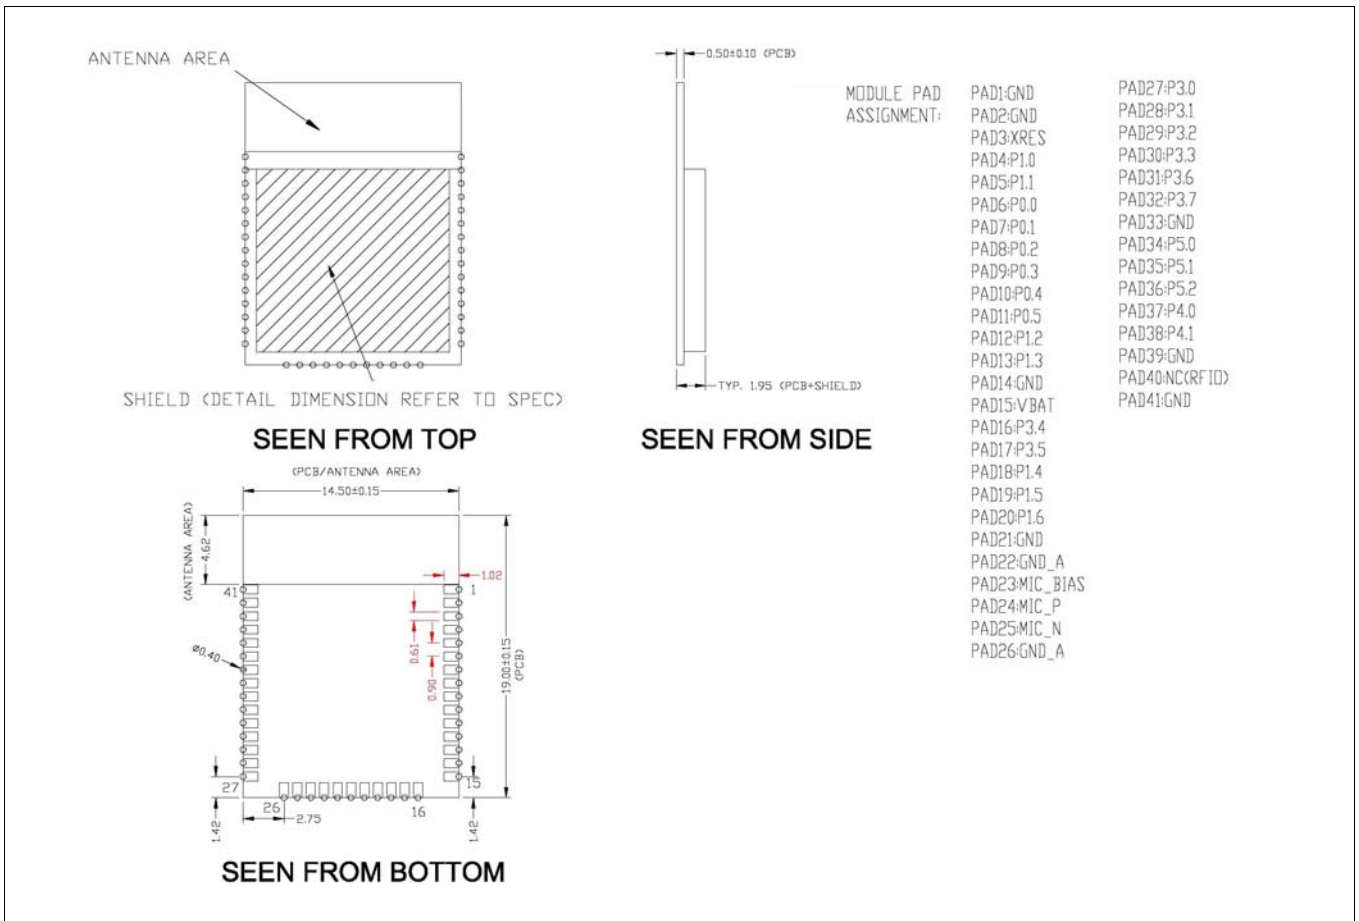
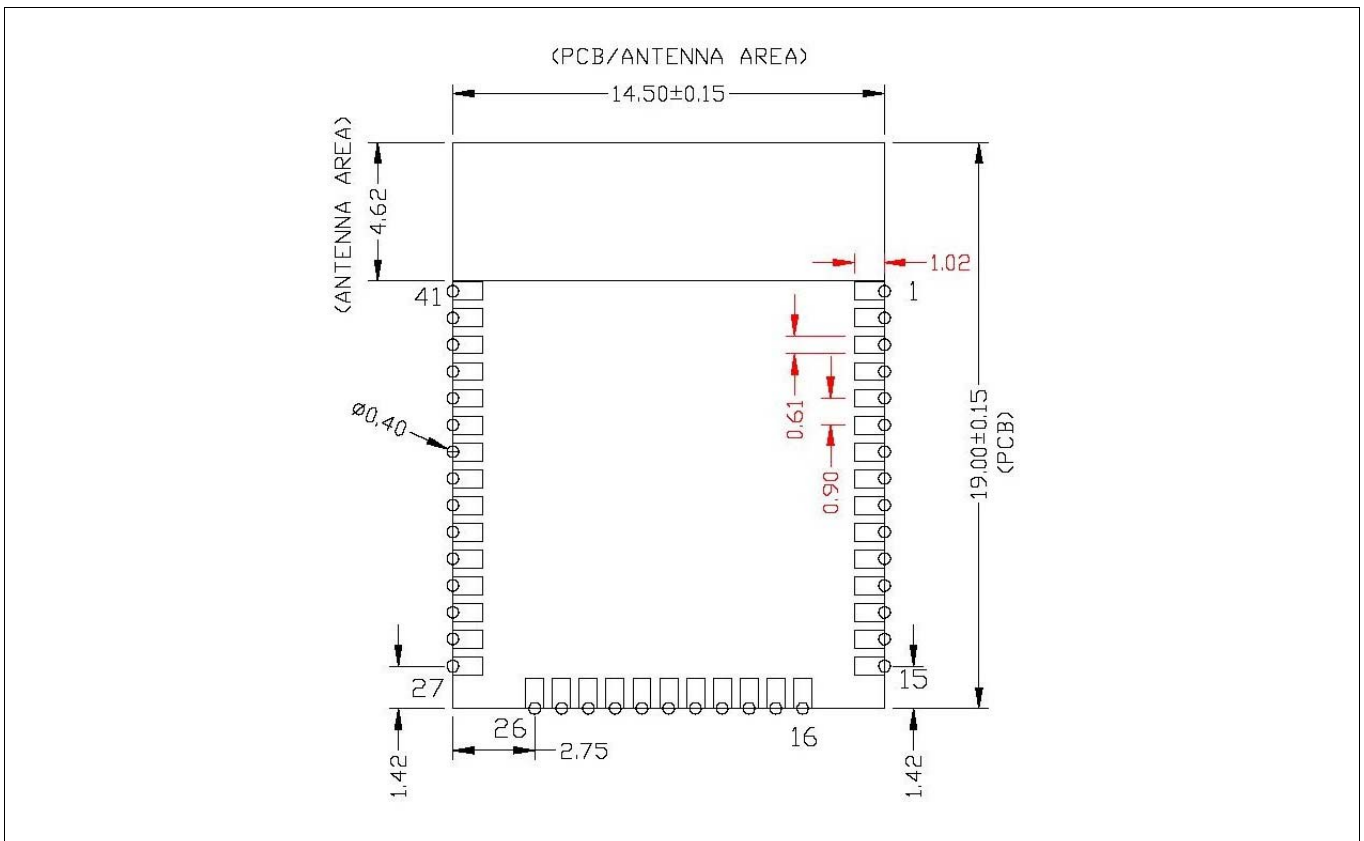

Figure 2 Module mechanical drawing
Figure 3 Solder pad dimensions (seen from bottom)
Infineon reserves the right to select components from various vendors to achieve the Bluetooth® module functionality. Such selections will still guarantee that all mechanical specifications and module certifications are maintained. Designs should be held within the physical dimensions shown in the mechanical drawings in **Figure 2**. All dimensions are in millimeters (mm).
See **Figure 2** for the mechanical reference drawing for CYW20829B0-P4TAI100.
As shown in the bottom view of **Figure 2**, the CYW20829B0-P4TAI100 connects to the host board via solder pads on the backside of the module. **Table 2** and **Figure 3** detail the solder pad length, width, and pitch dimensions of the CYW20829B0-P4TAI100 module.
1. Antenna Area Keepout: The host board directly below the antenna area of the module (see **Figure 2**) must not contain ground or signal traces. This keepout area requirement applies to all layers of the host board.
2. Module Placement: The ideal placement of the Bluetooth® module is in a corner of the host board with the PCB trace antenna located at the far corner. This placement minimizes the additional recommended keepout area stated in item 2. Refer to **AN96841** for module placement best practices.